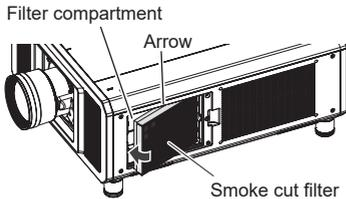

Fig. 1
1) Attach the smoke cut filter to the projector. (Fig. 1, 2)